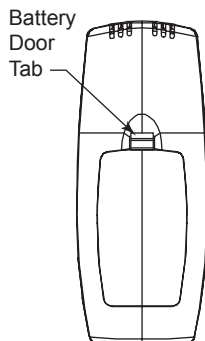

Fig. 32 Battery door tab.
1. Press down the battery door tab and pull out to remove the battery door. (Fig. 32)
4. When three (3) batteries are installed, the transmitter will initialize for 10 seconds and then is ready for use.